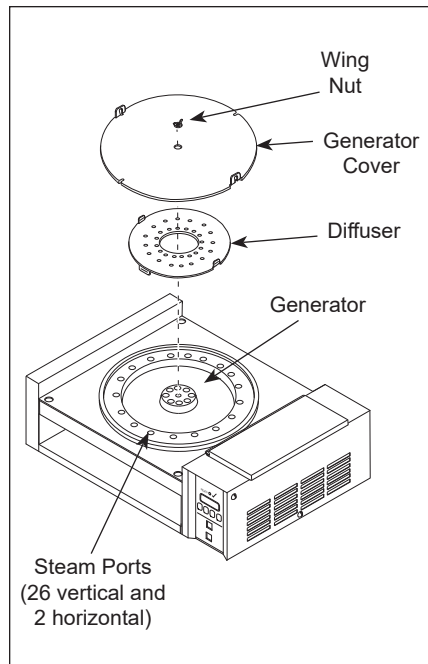

Figure 9. Monthly Cleaning
3. Remove the Wing Nut, Generator Cover, and Diffuser (Figure 9). Wash these items in hot, soapy water, rinse and wipe dry.
5. Take a wire brush and clean out any buildup from the 28 Steam Ports (26 vertical and 2 horizontal) of the Generator (Figure 9). Remove the loose buildup, wipe the Generator with a clean, damp cloth, and reassemble the unit.